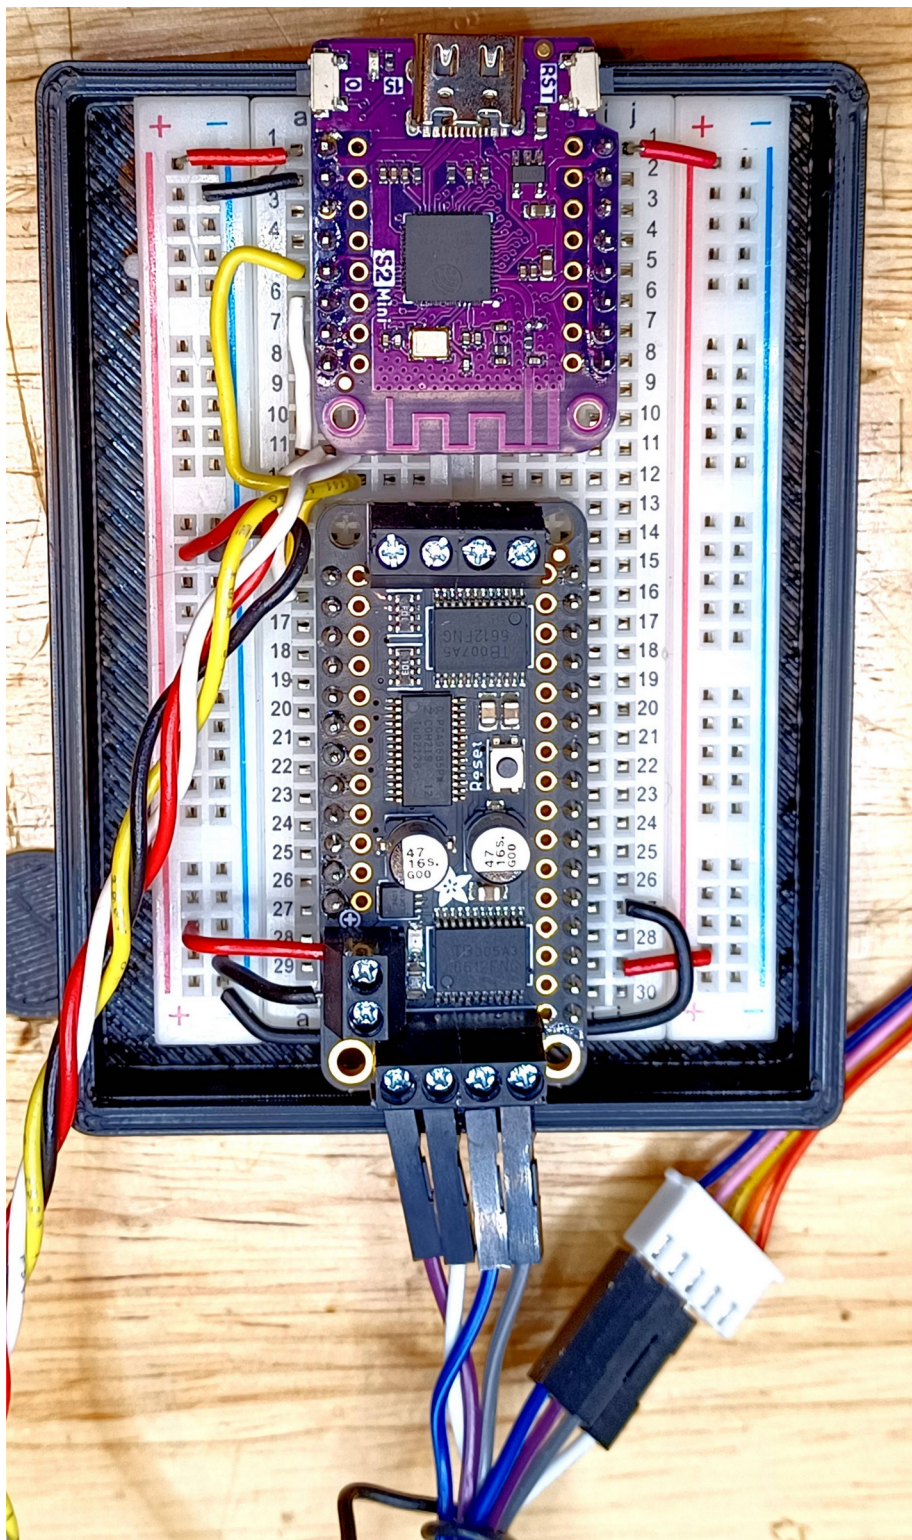

Figure 6: Picture of wired device.
- Mount the S2Mini at the top of the breadboard. See *Figure 6*.